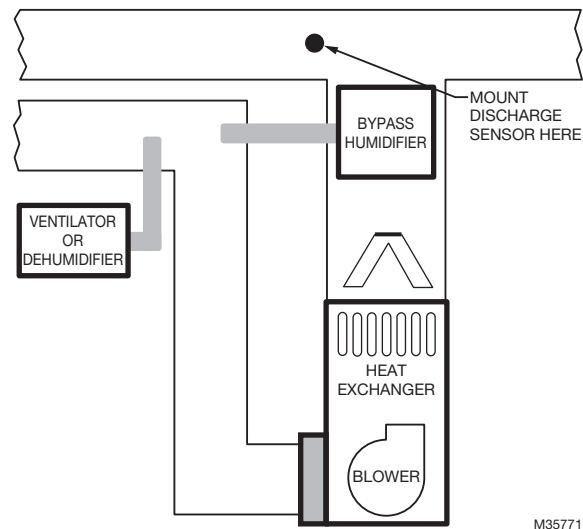

Fig. 6.
4. If a Bypass Humidifier is installed, mount the Discharge Air Temperature Sensor downstream of the Bypass Humidifier. See Fig. 6–7.